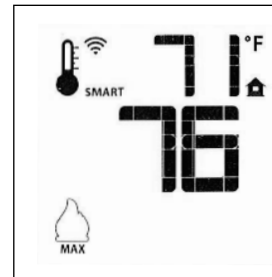

Figure 66. Smart Mode
- To activate this function, press the Thermostat Key until the word “SMART” appears to the right of the thermometer bulb icon. Fig. 66.